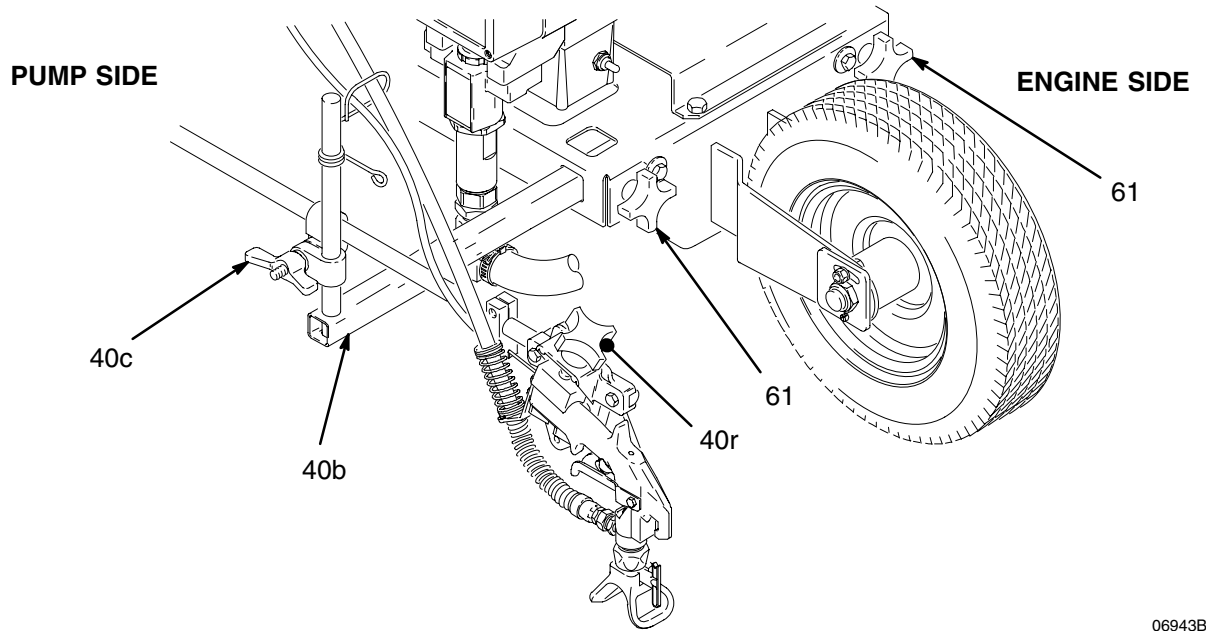

Fig. 4
2. Be sure the RAC IV Tip Guard is always parallel to the ground and the “wings” of the spray tip guard face the front and back of the unit, as shown in Fig. 4.